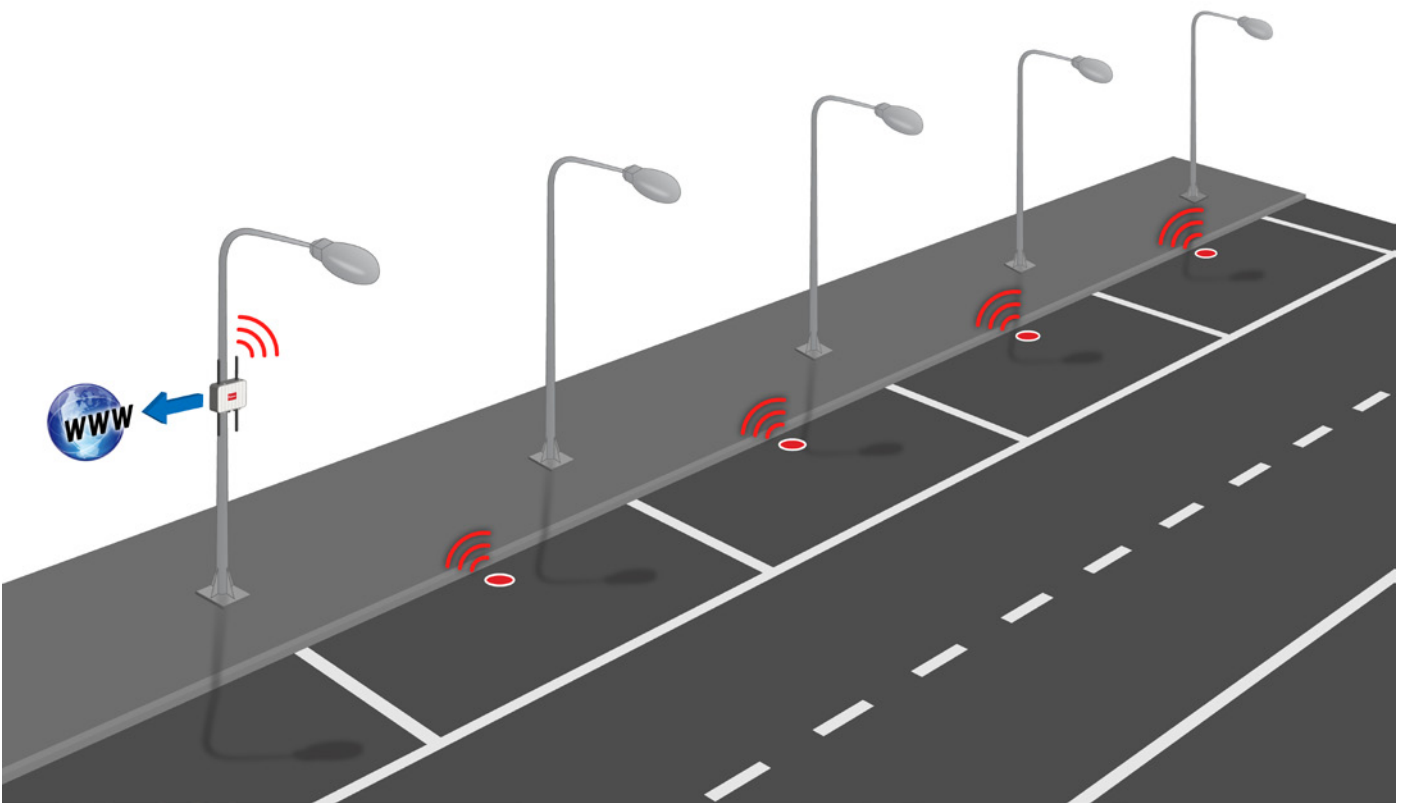

Figure 17: 868 / 900 MHz Direct Access Network - The Gateway sends the data to the Internet
- 2° Step (Figure 17): Meshlium sends the information to the Internet using the Wifi or GPRS radio.